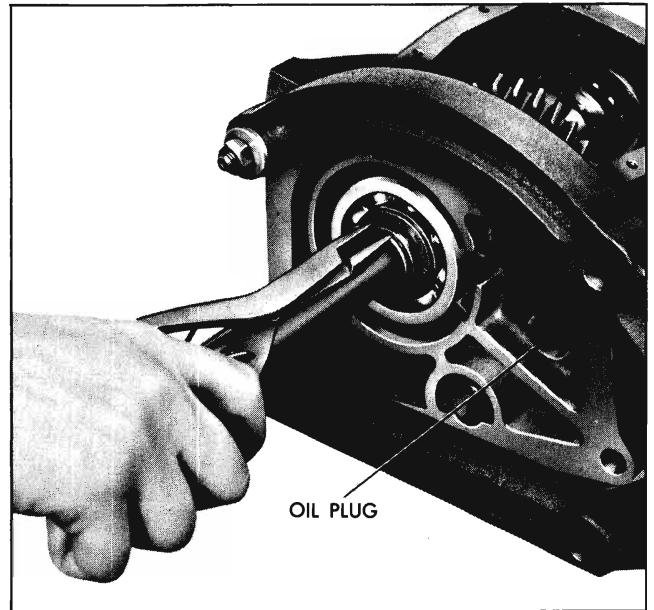

Fig. 7-27 Removing Mainshaft Snap Ring
4. Remove snap ring from mainshaft groove at rear of case. Snap ring is immediately behind mainshaft bearing as shown in Fig. 7-27.